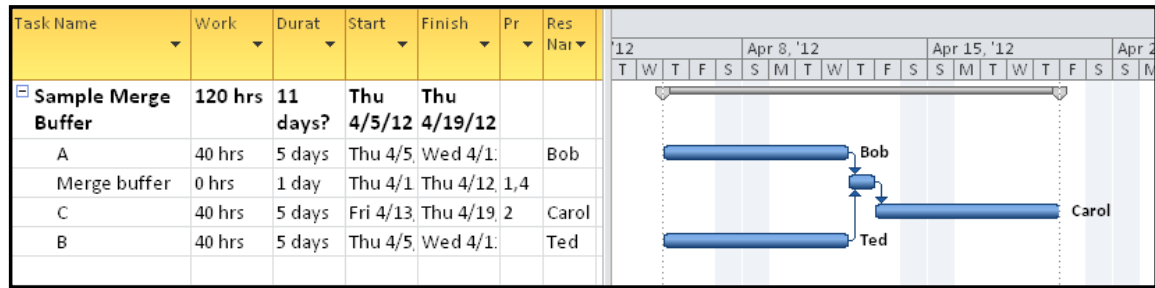

Figure 1. Microsoft® Project table and Gantt chart with merge buffer
In a large project using MS Project, the planner can inspect the network and create each merge buffer by adding a task with three specific attributes: no assigned resource, an effort of zero (0), and a duration of the merge buffer (see the one-day merge buffer illustrated in Figure 1). Again, as the project unfolds, these planning buffers will be removed as they are encountered.